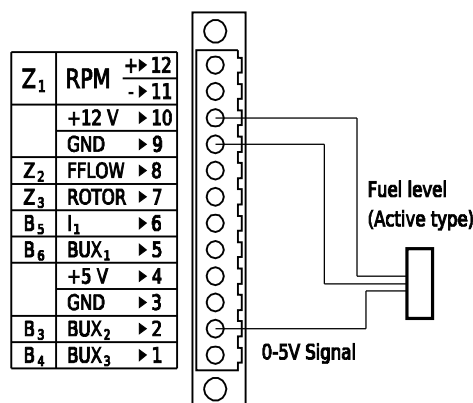

Figure 31: Active fuel level sensor connection schema.
- Sensor has three wires. Connect sensor +5/+12 V *input* to appropriate +5/+12 V pin according to your sensor specifications. Ground is connected to GND pin and signal must be connected to the correct channel (default channel is B1, channels B2 – B6 can also be used). See figure 31 for proper connection schema.